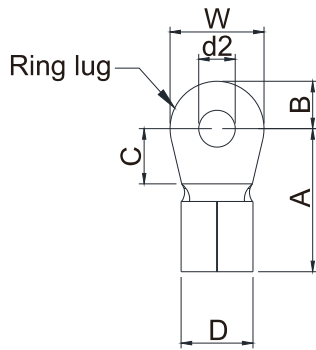

Figure 5-10
- Use the specified ring lug for main circuit terminal wiring. See figure 5-10 and figure 5-11 for ring lug specifications. For other types of wiring, use the wires that comply with the local regulations.
- After crimping the wire to the ring lug (must be UL approved), UL and CSA approved recognized component (YDPU2), install heat shrink tube rated at a minimum of 600V_{AC} insulation over the live part. Refer to figure 5-10 below.